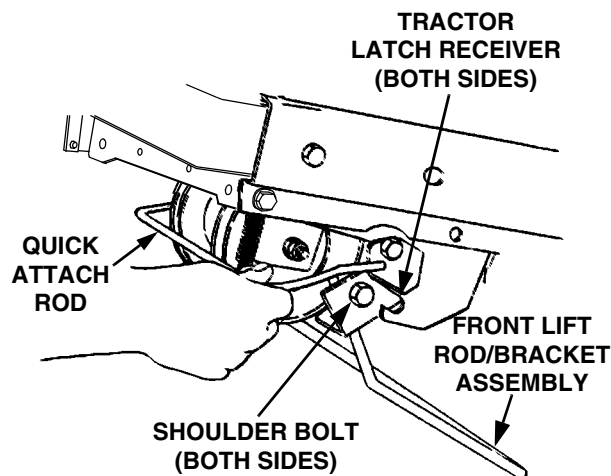

Figure 41
9. From the front of the tractor, push downward and hold the tractor quick-attach rod. Pull the front lift rod/bracket assembly forward to release the shoulder bolts on each side of the bracket from the left and right tractor latch receivers. Release the tractor quick-attach rod. See Figure 41.